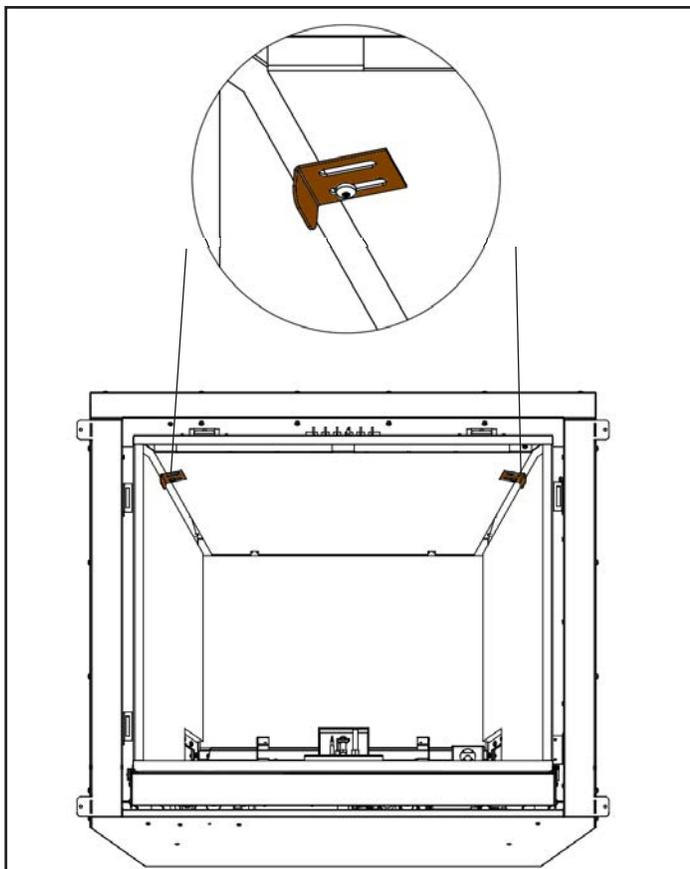

Figure 36. Liner panel retainers
Step 3: Screw the (2) retainer brackets into the existing exhaust baffle with the supplied #8 T-20 bolts. Before tightening press the retainer onto the panel firmly. Tighten them once the panels seem to be in the correct position. (See Figure 36)